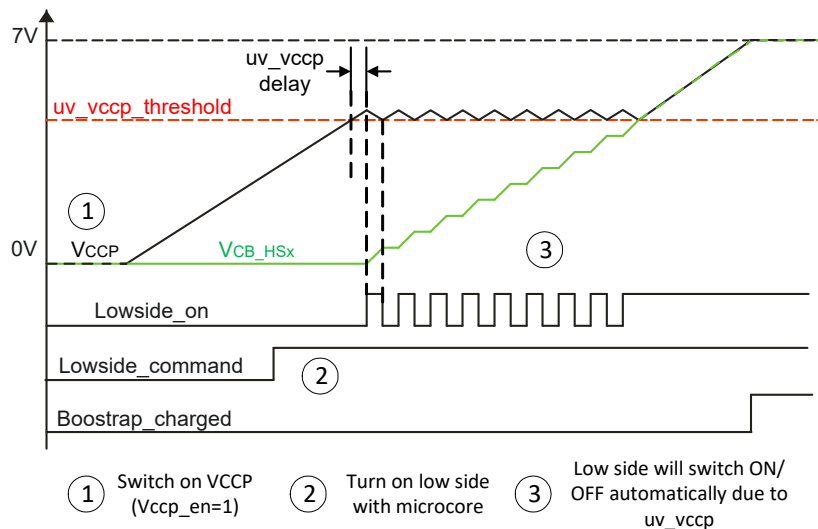

Figure 23. Power-up: V_{CCP} and bootstrap capacitors - before V_{CCP} fully charged
2. Switch on the LS MOSFET(s) as soon as possible after the V_{CCP} voltage is above the V_{CCP_UV} threshold. This causes the V_{CCP} voltage to cross the V_{CCP_UV} threshold again and thereby the LS MOSFET(s) and the bootstrap diode are switched off again. The V_{CCP} voltage recovers from undervoltage and after the delay min. of 16 μ s, the LS MOSFET(s) and the bootstrap diode are switch on again. This pulsed charging of the bootstrap capacitors with a frequency of below 50 kHz continues until the voltage of the bootstrap capacitors is above the V_{CCP_UV} threshold. Figure 23 shows this strategy.